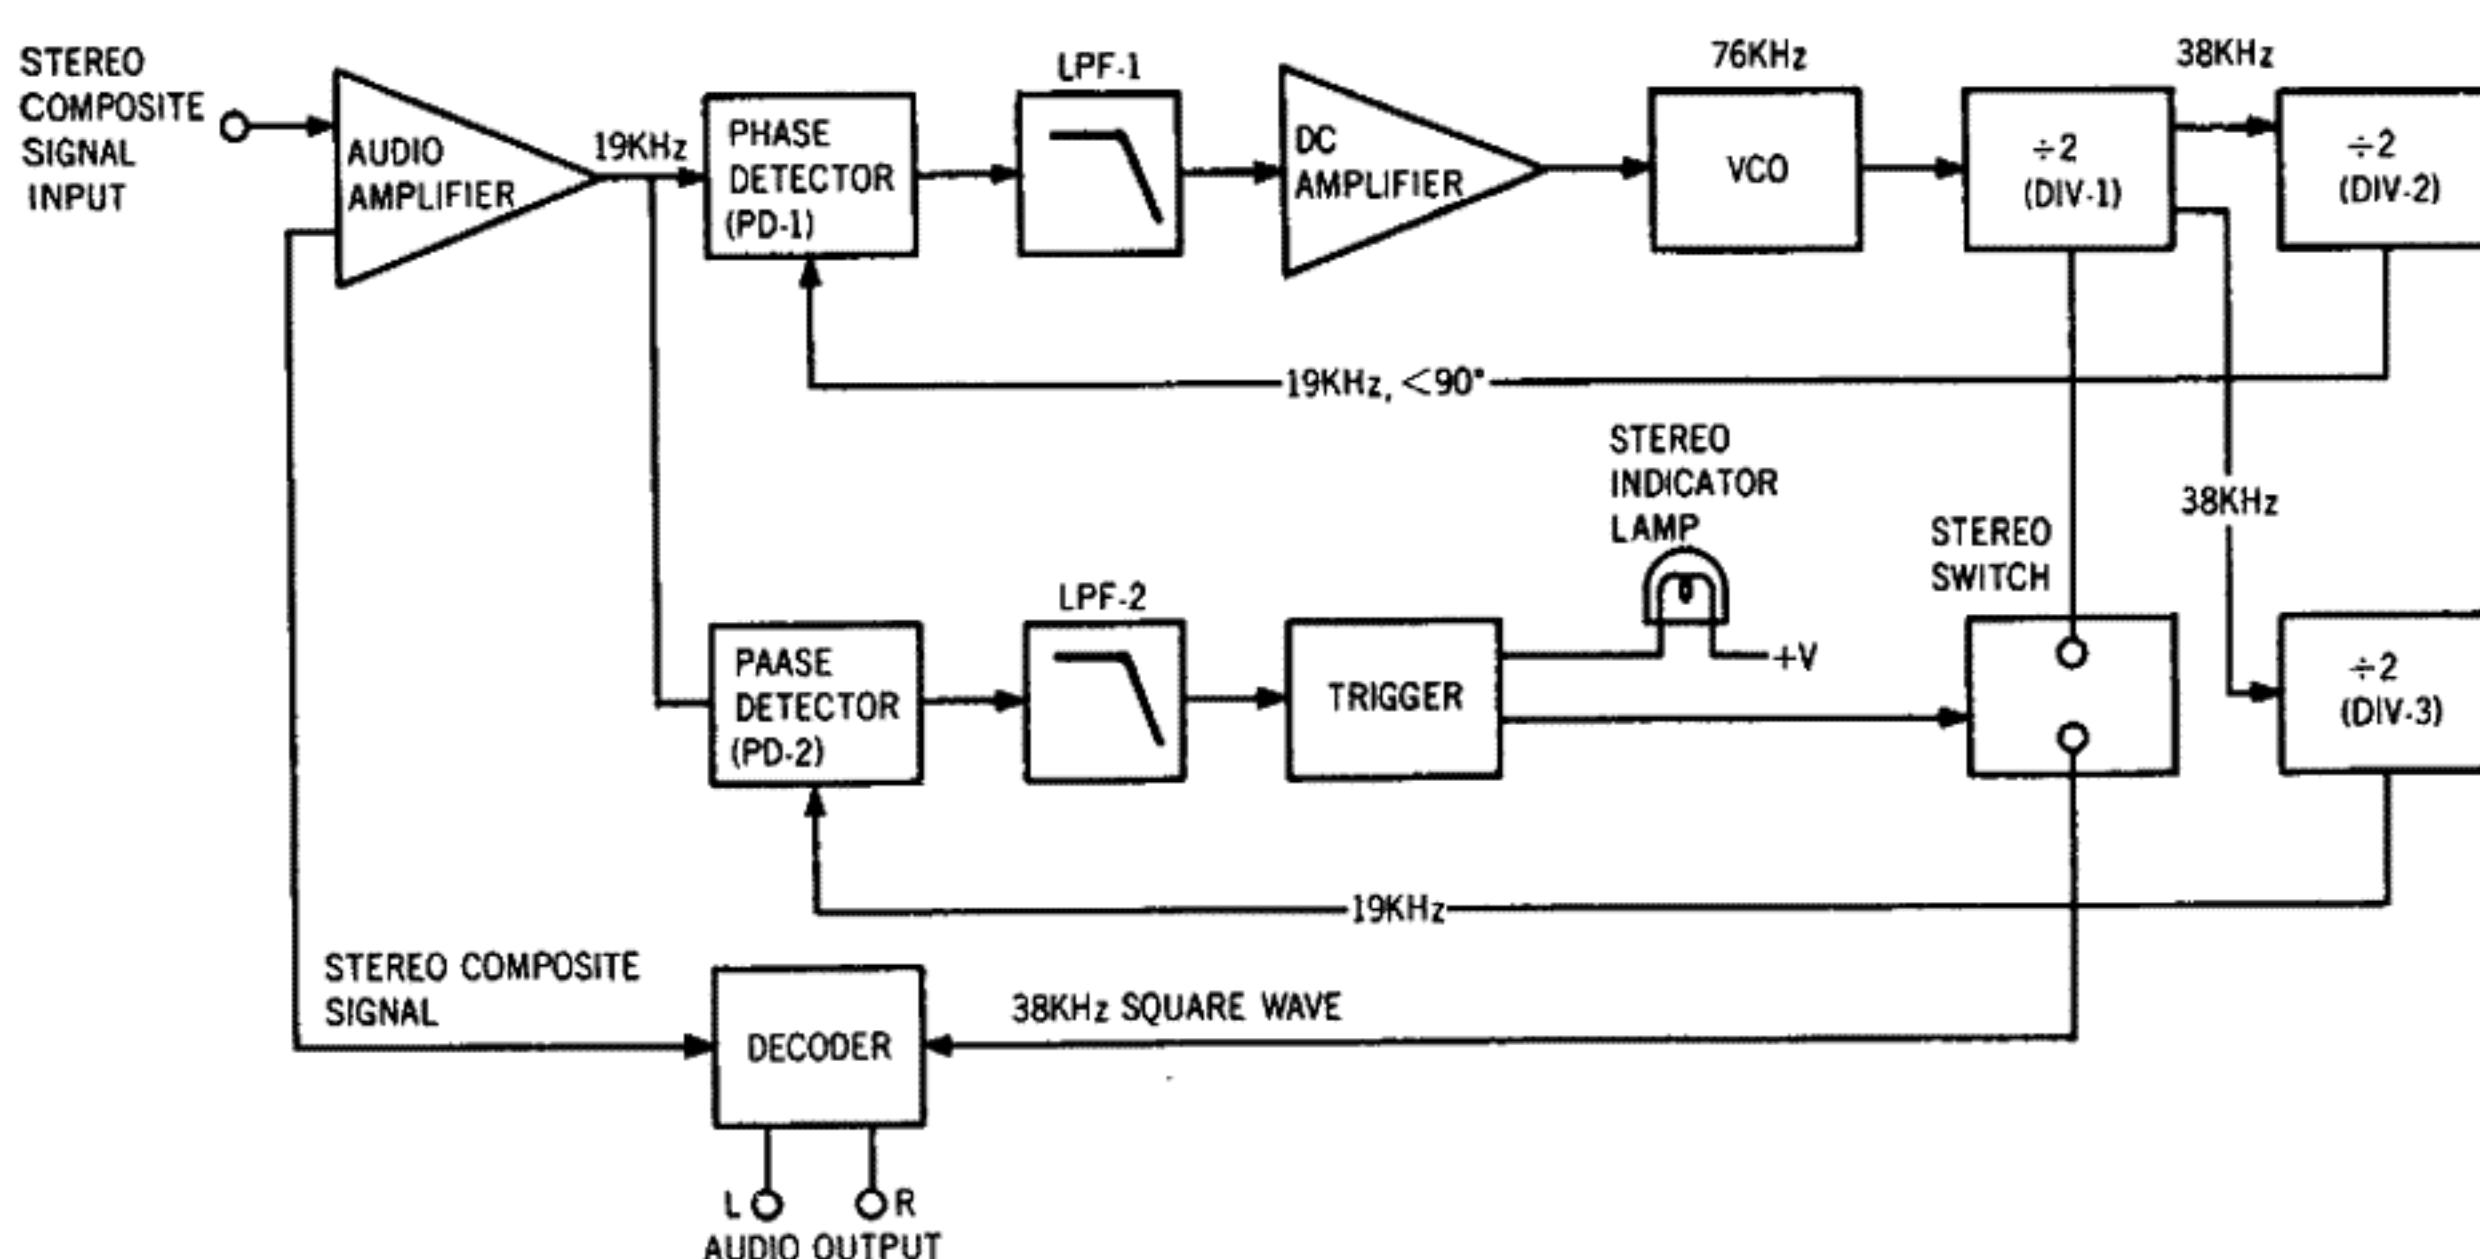

Figure 1. Block Diagram of the HA1156
The stereo composite signal from the buffer amplifier undergoes a phase compensation by R301 and C301, is applied through the muting switching FET H301 to the input terminal pin ②, of the MPX stereo decoding IC H321 on a PLL (Phase Locked Loop) basis, and decoded into the left and right stereo signals, which become available at pins ④ and ⑤ respectively. These decoded left and right stereo audio signals are introduced through a low pass filter composed of L301 to L304 and C311 to C320 for elimination of undesirable residual switching signal and through a de-emphasis network consisting of R325, R326, C321 and C322, into the npn-pnp direct coupled audio amplifier, where the signals are amplified to a required level for the output from J311 and J313. From these jacks, the audio signals are led to the TAPE MONITOR OUT jacks through the function switch. Figure 1 presents an internal block diagram showing the functions of the PLL basis MPX stereo decoding IC HA1156. The input stereo composite signal, amplified by the audio amplifier, is delivered to the phase detectors PD-1 and PD-2. A part of the stereo composite signal is also applied to the stereo decoder section. The VCO (Voltage Control Oscillator) produces a free run oscillation in the neighborhood of 76KHz with the time constant determined by a capacitor C305 and resistors R311 and R312 set on the outside of pin ⑭. The VCO output has its frequency divided into 19KHz through the two stages of the frequency divider (DIV-1 & DIV-2), and is reverted to the phase detector PD-1, which contains two input terminals designed to produce an output in proportion to the product of the two input signals. The signal applied to one of the inputs of PD-1 is the 19KHz square wave formed through frequency division of the 76KHz VCO output signal by the two stages of the frequency divider DIV-1 and DIV-2, and the 19KHz pilot signal included in the stereo composite signal as a reference signal is applied to the other input. Therefore, the output of PD-1 which has passed through the low pass filter LPF-1 provides DC output voltage in proportion to the phase variance between the two inputs. This DC output voltage is amplified by the DC amplifier, and supplied to the 76KHz VCO as a control voltage. This means that the output frequency and phase of the VCO have been phase-locked to the input pilot signal. The 38Khz sub-carrier reproduced by PLL as stated above is delivered through the stereo switch to the stereo decoder section as a switching signal, thus driving the decoder section. One of the inputs of PD-2 is given the 19Khz resulting from the frequency division completed by DIV-1 and DIV-3, whereas the other input gets the 19Khz output contained in the composite signal, and the output is provided with a DC output in proportion to the amplitude of the pilot signal.